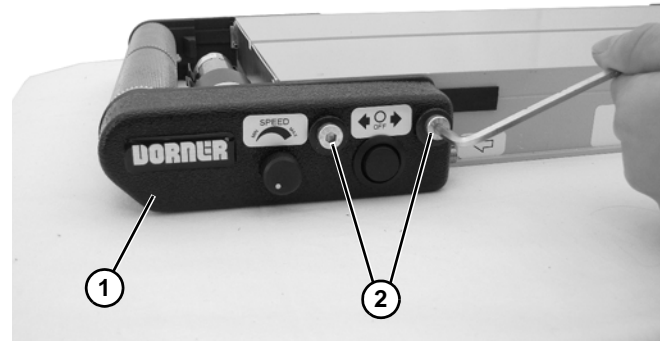

Figure 68
2. Remove inframe drive side cover (**Figure 68, item 1**) by removing two head plate fastening screws (**Figure 68, item 2**).